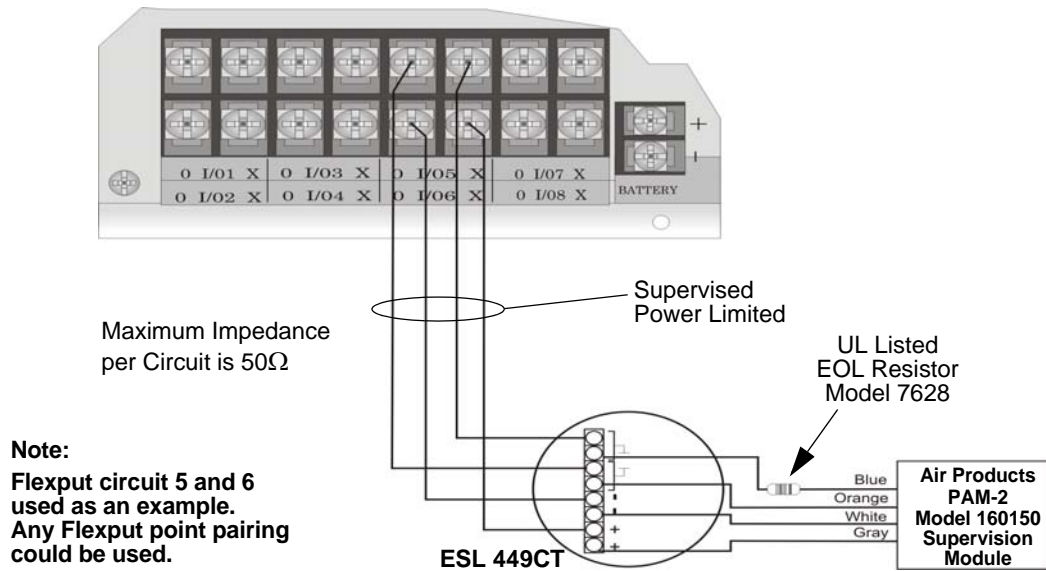
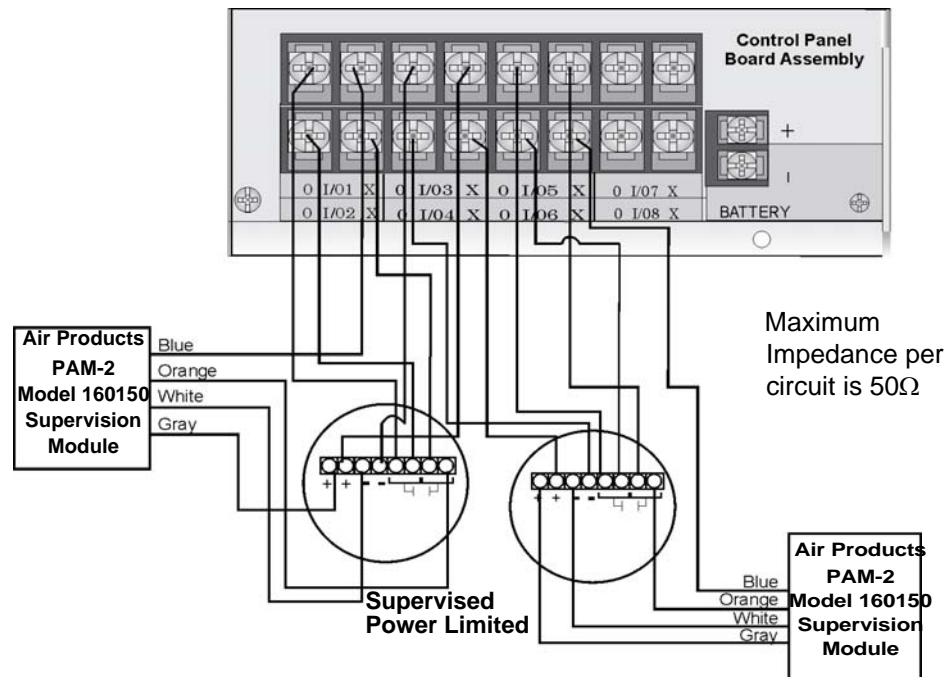

Figure 4-37 4-Wire Class B Smoke Detector Connections
Figure 4-38 4-Wire Class A Smoke Detector Connections
Any compatible UL listed four-wire smoke detector can be used with the control panel (see Appendix A for list of compatible smoke detectors). Figure 4-37 and Figure 4-38 illustrate how to connect a UL listed four-wire detector to the control panel.
Figure 4-37 illustrates how to install a 4-wire Class B smoke detector.
2. Each Class B loop input is paired with a unique power source as shown in Figure 4-37.
Note: In programming any point that uses multiple Flexput circuits, the lowest Flexput circuit number is used to refer to the circuit pair. For example, Figure 4-37 uses both Flexput circuit 5 and 6, so in programming it would be referred to as point 5.
Figure 4-38 illustrates how to install 4-wire Class A detectors.
2. Smoke power is supplied to each Class A loop as shown in Figure 4-38.
Note: In programming any point that uses multiple Flexput circuits are always referred to as the lowest Flexput circuit number used. For example, Figure 4-38 uses Flexput circuits 1, 2, 3 together and 4, 5, 6 together. In programming (1, 2, 3) would be referred to as point 1, and (4, 5, 6) would be referred to as point 4.